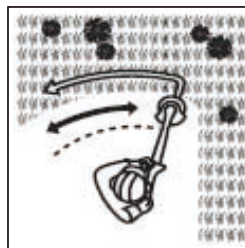

Fig 14
6. Move the product with a slow regular arc from left to right before moving it back to the starting position before trimming the next area (Fig 14).